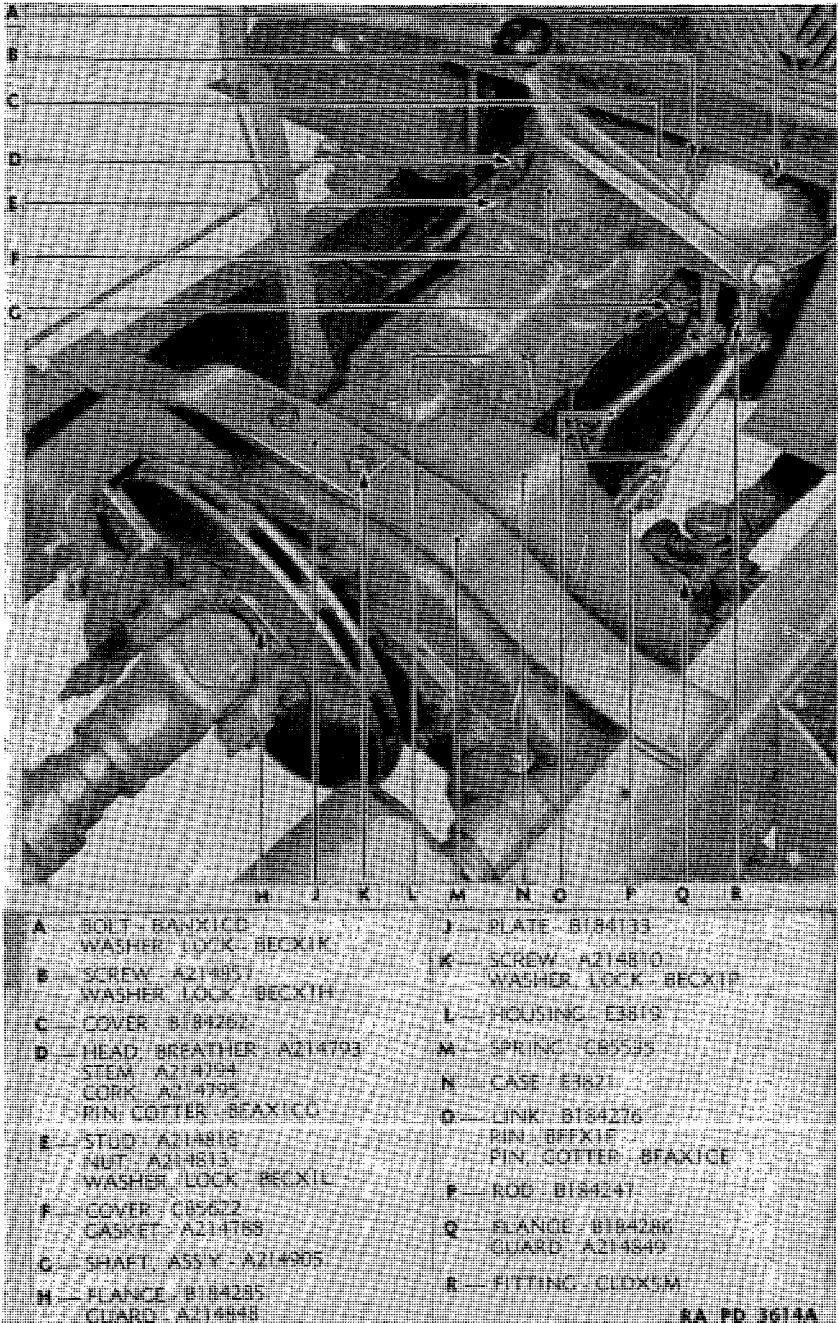

FIGURE 83.—Transmission assembly, installed.
34. Removal of assembly (figs. 83 and 84).—Tools: $\frac{5}{8}$ -inch open end wrench, $\frac{5}{8}$ -inch socket wrench, $\frac{9}{16}$ -inch open end wrench, $\frac{9}{16}$ -inch socket wrench, pliers, $\frac{7}{8}$ -inch open end wrench, large pail, screw driver, jack, brass drift, hammer, $\frac{3}{4}$ -inch socket wrench, 1-inch rope, $\frac{7}{8}$ -inch socket wrench, chain block and hook, $\frac{5}{16}$ -inch open end wrench, 1-inch socket wrench.
c. Disconnect speedometer cable—pliers, $\frac{9}{16}$ -inch socket wrench, $\frac{9}{16}$ -inch open end wrench. Remove round coupling nut holding speedometer drive shaft (A214905) to transfer case front drive shaft rear bearing cap (fig. 83). Remove two cap screws (BCAX1CC) which secure speedometer cable clips (A214906) to transmission, and remove clips.
k. Disconnect transmission support spring and spring pressure plate— $\frac{7}{8}$ -inch socket wrench. Remove two cap screws (A214810) and lock washers (BECX1P) holding support spring (C85535) and pressure plate (B184133) to transmission (fig. 83).